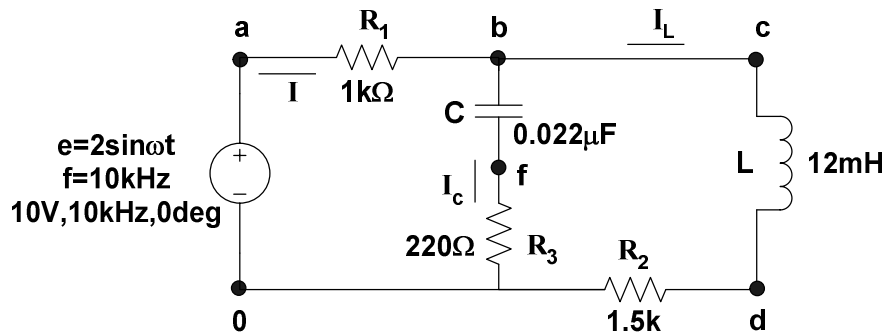

Figure 1: RLC circuit
The students learnt how to use the function generator and oscilloscope in the previous experiment. In this experiment they will learn to build and take measurements in ac circuits. The circuit will be simulated on *Multisim Electronics Workbench*. Then they will build it with hardware components and check the accuracy of the measurements comparing with the simulation results. Consider the circuit given in Figure 1.
1. Measure currents in each branch of the circuit of Figure 1 using oscilloscope